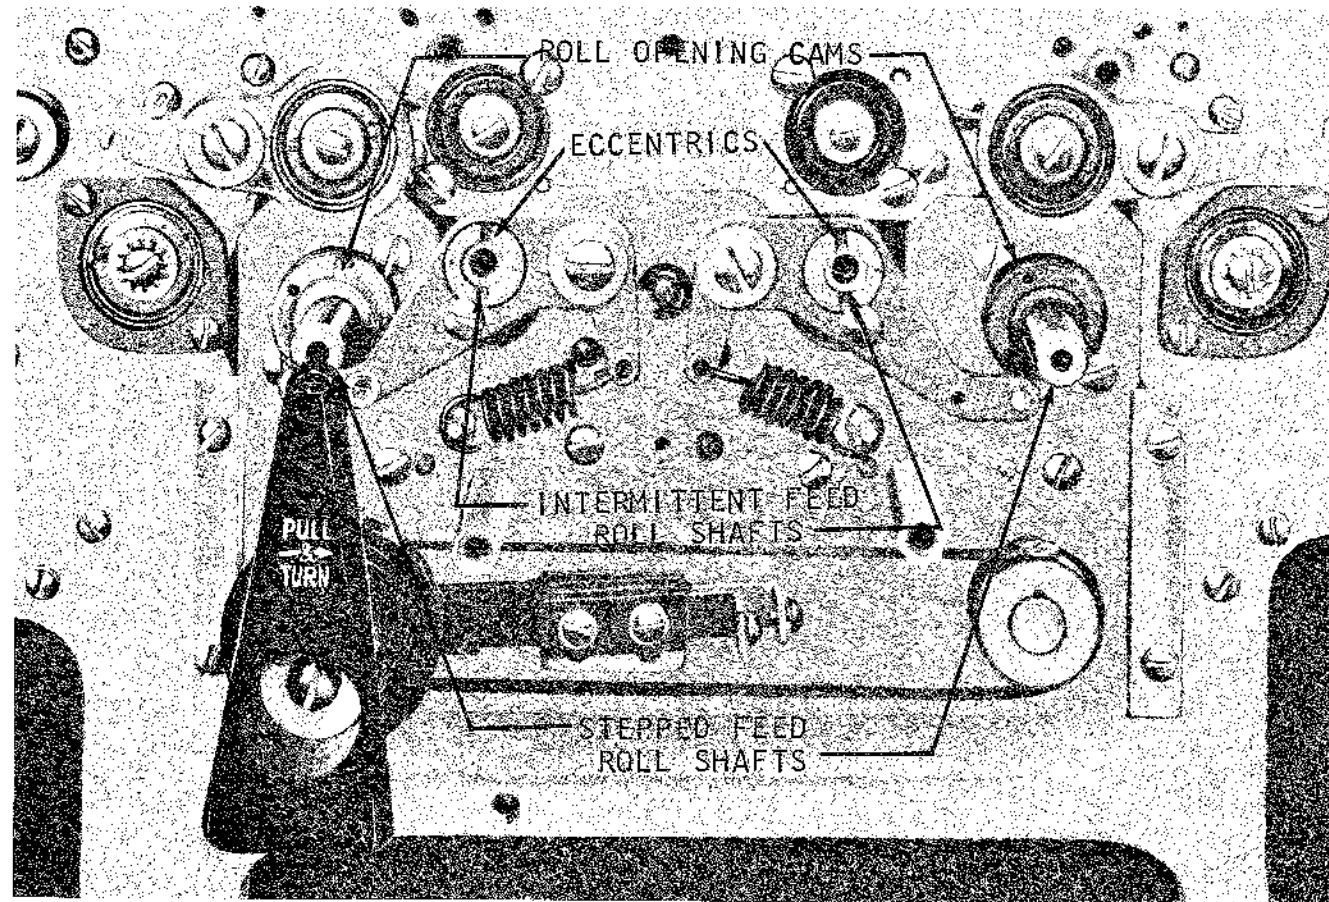

Figure 41. Roll Opening Device
2. Adjust the eccentrics* at each end of the intermittent feed roll shaft so that there is a light drag evenly over the full length of the card (Figure 41). Keep the high side of the right and left eccentrics in the same relative position as indicated by spot marks on eccentric bushings and feed roll opener arms.
Principles of Operation (Figure 41)